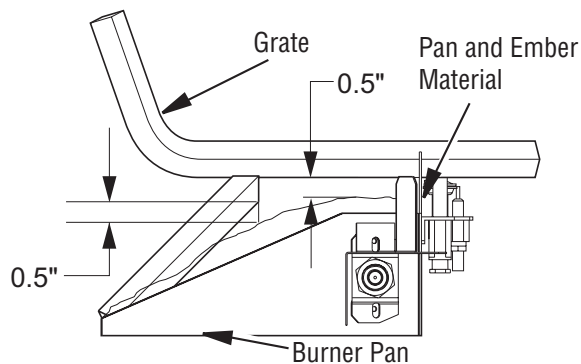

Figure 21 - Pan and Ember Material Clearances
4. Place just enough to cover entire surface and leave about a 1/2" gap under lower grate members to allow air to flow (see Figure 21).